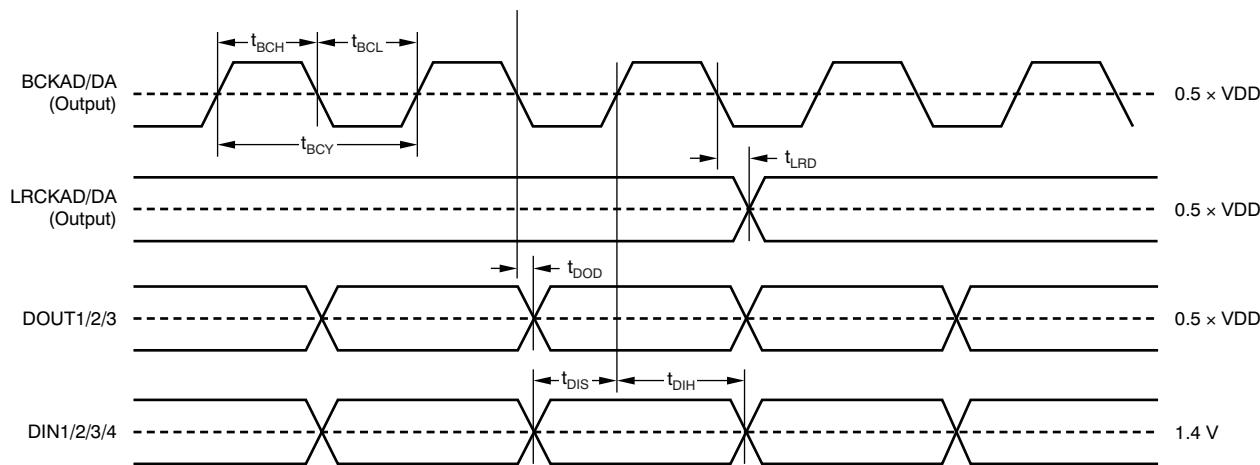

**Figure 42. Audio Interface Timing Requirements for Left-Justified, Right-Justified, and I2S Data Formats
Figure 42 through Figure 45 describe the detailed interface timing specifications.
**Table 9. Timing Requirements for Figure 42(1)**